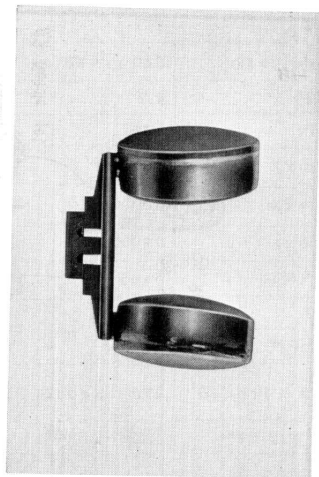

Figure 3-108. Float (S65)
If any foreign object should get stuck in between the float valve and seat and causes the fuel to overflow out of the slow jet or the needle jet, the fuel will enter the engine and dilutes the oil. To prevent such an occurrence, an overflow pipe (23) is incorporated into the float chamber (21). The outlet of the overflow pipe (23) is higher than the normal fuel level and therefore, has no effect, but under overflow condition, the fuel level rises and the overflow fuel is drained outside. (Fig. 3-108)